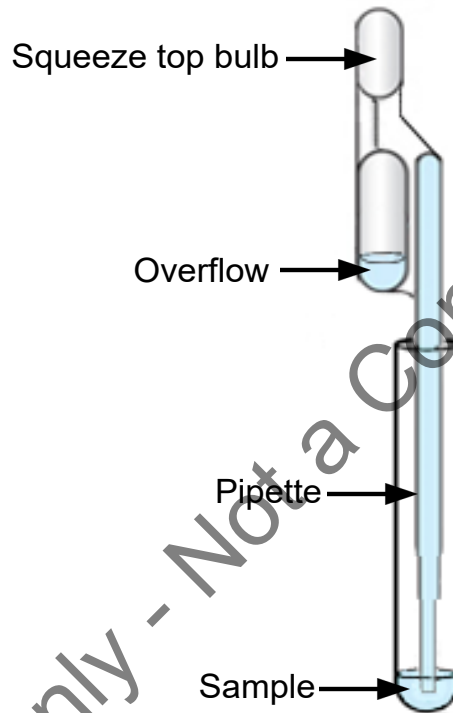
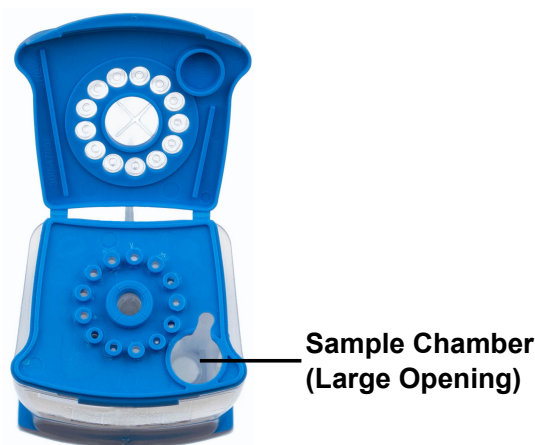

Figure 3. Transfer Pipette
Figure 4. Cartridge (Top View)
1. Open the cap on the specimen transport tube. Squeeze the top bulb of the transfer pipette **completely** and place the pipette tip in the ESwab transport medium tube containing the patient specimen (see Figure 3).
3. To transfer the patient specimen to the cartridge, squeeze the top bulb of the transfer pipette completely again to empty the contents of the pipette into the large opening (Sample Chamber) in the cartridge shown in Figure 4. It is okay to have excess specimen left in the overflow reservoir of the pipette (Figure 3).